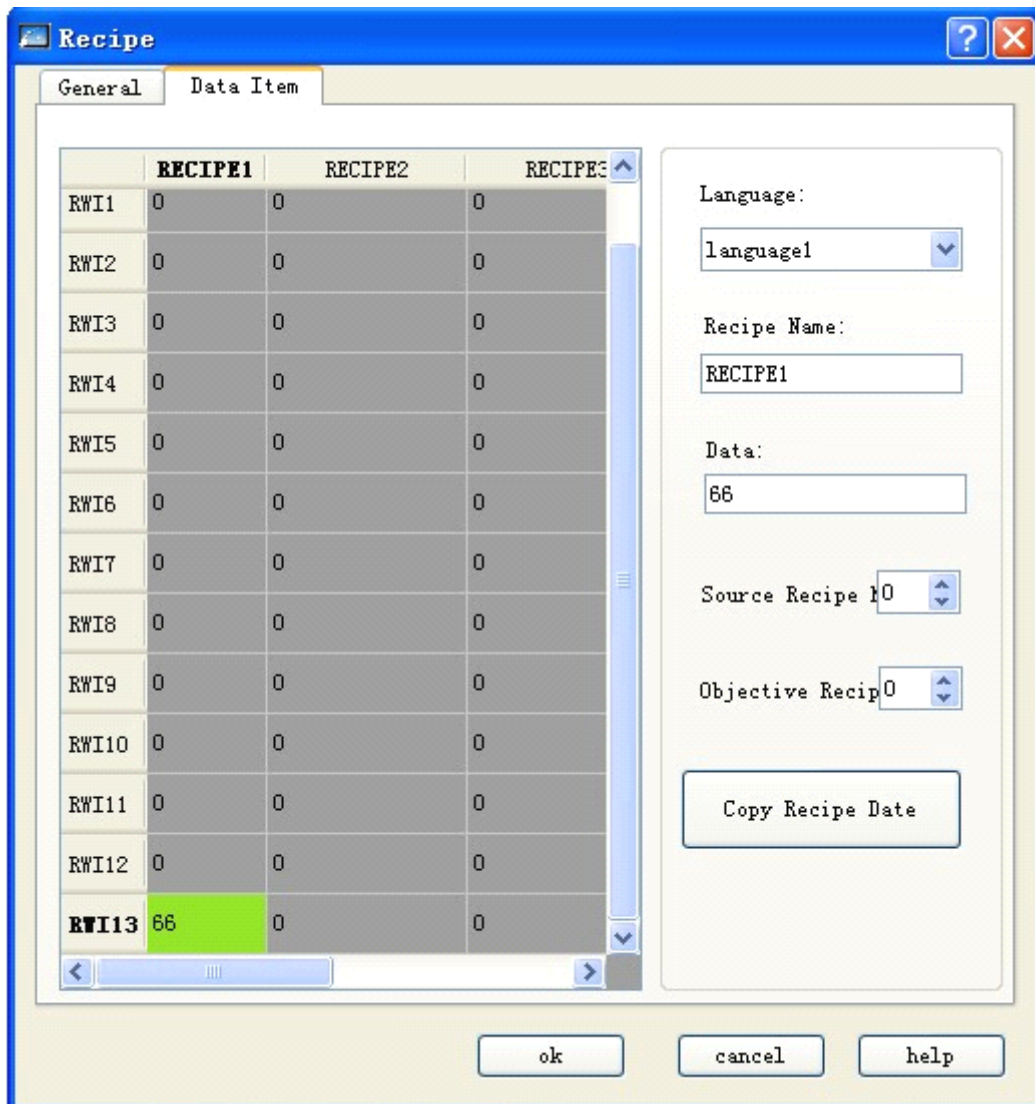

Figure 7-32 Function of recipe data copy
1. Establish recipe configuration according to above mentioned method, as shown in figure 7-32 below.